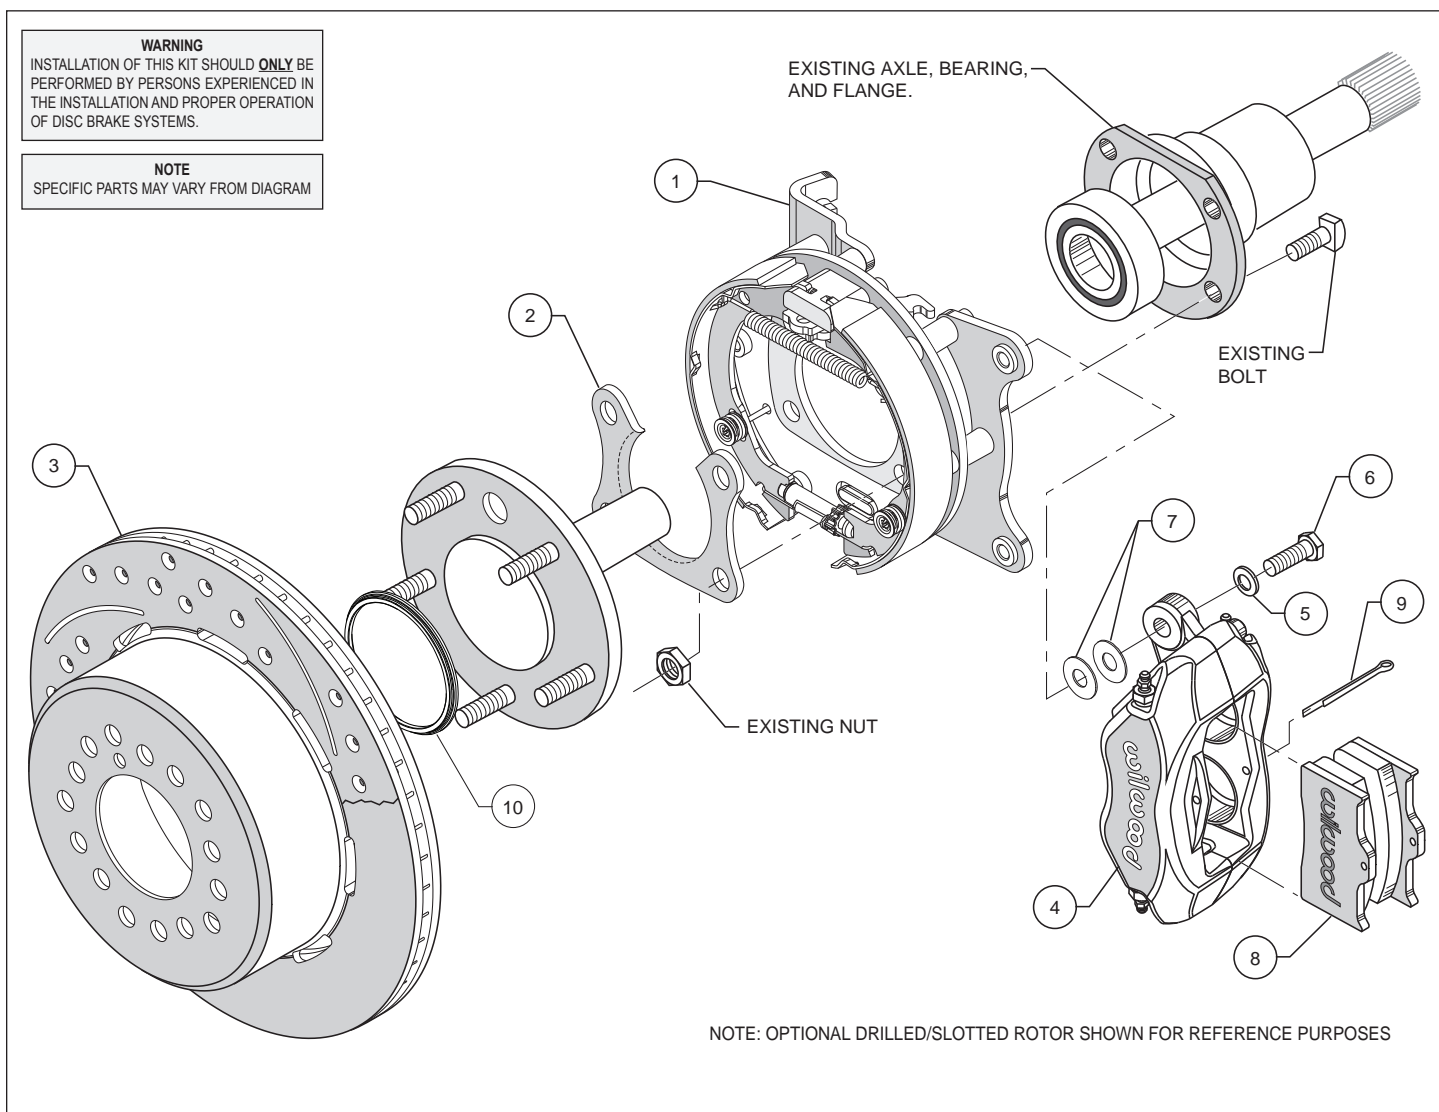
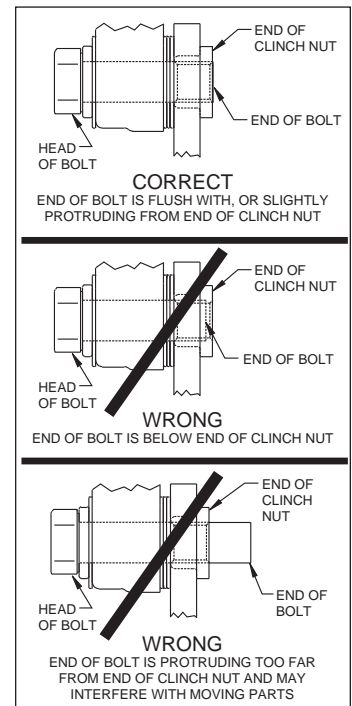

Figure 1. Typical Installation Configuration
Figure 5. Clinch Nut Engagement Diagram
**Assembly Instructions** (numbers in parenthesis refer to the parts list, and Figure 1 on the preceding pages): **CAUTION:** All mounting bolts must fully engage clinch nuts. Be sure to check that all bolts are either flush or protruding through flanged side of clinch nut after shimming, Figure 5.
- Orient the bracket assembly (1) as shown in Figure 1 and Photo 1 and slide it onto the axle. Insert the axle and bracket into the axle housing. Ensure that the bracket assembly backing plate fits flush against the axle housing flange.
- Install the bearing retainer (2) with the opening pointing upward and the lip facing inward (toward the bearing), as shown in Figures 1 and 4, and Photo 2. Secure retainer and bracket assembly to the axle housing flange using the Original Equipment Manufacturer (OEM) bolts and nuts, Figure 1. Apply red *Loctite*® 271 to the OEM bolt threads and torque to OEM specifications.
•Align the correct hole pattern in the rotor/hat with the stud pattern on the axle flange and slide into place, Figure 1 and Photo 3. **NOTE:** The rotor/hat must fit flush against the axle flange or excessive rotor run out may result. Install three lug nuts (finger tight) to keep the rotor/hat assembly in place while continuing with the installation. **NOTE:** Some OEM and after market axles come with stud sizes larger than 0.50" diameter. Verify stud size and have a qualified machine shop drill the bolt circle of the hat/rotor to the correct stud size, if necessary.
•**NOTE:** Please reference the caution statement at the beginning of the assembly instructions. Mount the caliper (4) onto the caliper mounting bracket (1) using bolts (6) and washers (5), as shown in Figure 1. Initially place two .035" thick shims (7) on each bolt between the caliper and the bracket, Photo 4. Temporarily tighten the mounting bolts and view the rotor (3) through the top opening of the caliper. The rotor should be centered in the caliper, Photo 5. If not, adjust by adding or subtracting shims between the bracket and the caliper. Always use the same amount of shims on each of the two mounting bolts. **NOTE:** The end of each bolt must be flush with or slightly protruding from the head of the clinch nut, as shown in Figure 5. If necessary place spare shims between washer (5) and caliper mounting ear to achieve the proper clinch nut engagement. Once the caliper alignment and clinch nut engagement are correct, remove the bolts one at a time, apply red Loctite® 271 to bolt threads, and torque to 40 ft-lb.